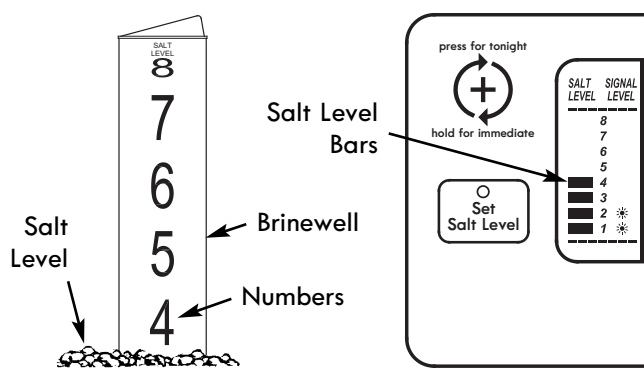

Figure 26
2. The salt level scale, on the brinewell inside the tank, has numbers from 0 to 8 (see Fig. 26). Observe the highest number the leveled salt is at, or closest to.
3. Press the SET SALT LEVEL button as many times as necessary to make the salt level bars in the display (see Fig. 26) match the number on the brinewell. At level 2 or below, the "Low Salt" indicator will flash.